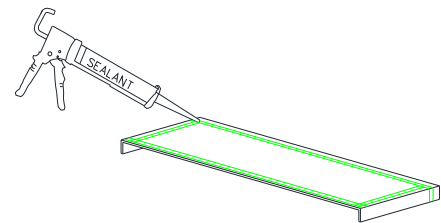

Figure 11:
- With bottom side of sillpan up, apply a 3/8" bead of compatible sealant 1/2" in from interior leg. Sealant bead to run across the bottom as well as up each vertical leg of the sillpan. Also apply sealant beads near the sides and across the front (Figure 11).